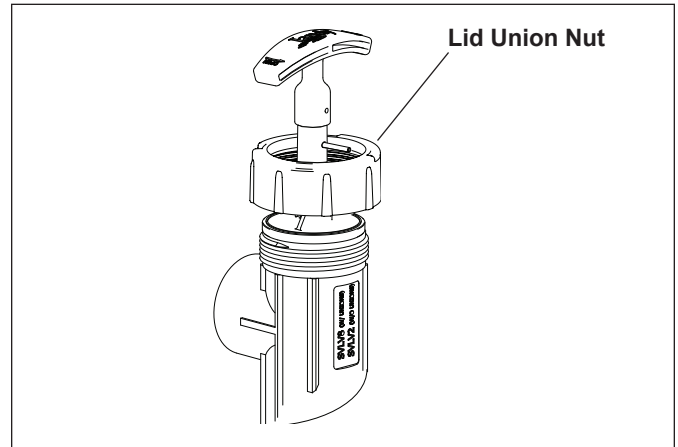

Figure 1. Loosen Lid Union Nut
2. Loosen the existing lid union nut on the slide valve (see Figure 1).